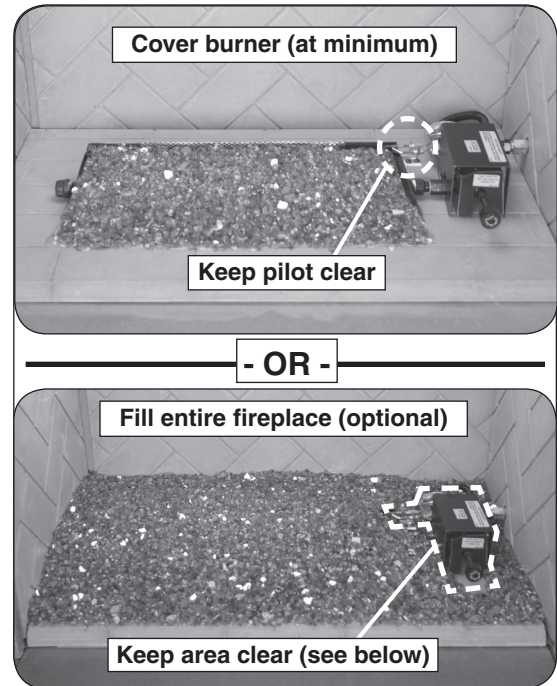
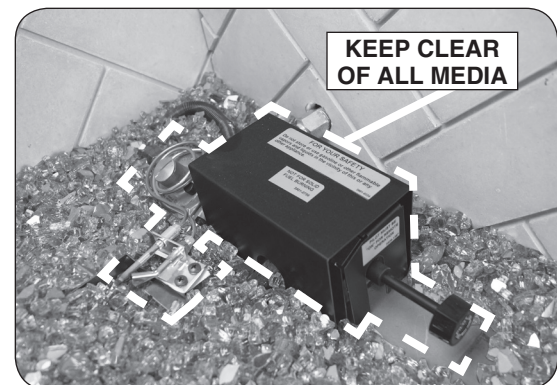

Fig. 22-1 Glass media placement
Fig. 22-3 Keep pilot, valve, & shield clear
1. After the required sand/vermiculite and screen have been placed, pour the glass media (glass, gems) so that the burner pan is covered completely and evenly (see Fig. 22-1).
- DO NOT place any glass media directly on the pilot assembly, on or within the heatshield, or under a knob if one exists at the front of the valve (see Fig. 22-1 and Fig. 22-3).
2. Complete placement by pouring the remaining glass media on the floor of the fireplace, around the front, rear, and sides of the burner system (see Fig. 22-1).
**KEEP SAND/VERMICULITE, GLASS/GEMS, AND ALL FOREIGN OBJECTS AWAY FROM THE PILOT ASSEMBLY, VALVE ASSEMBLY, AND HEAT SHIELD DURING MEDIA PLACEMENT AND AT ALL TIMES. SEE FIG. 22-3.**